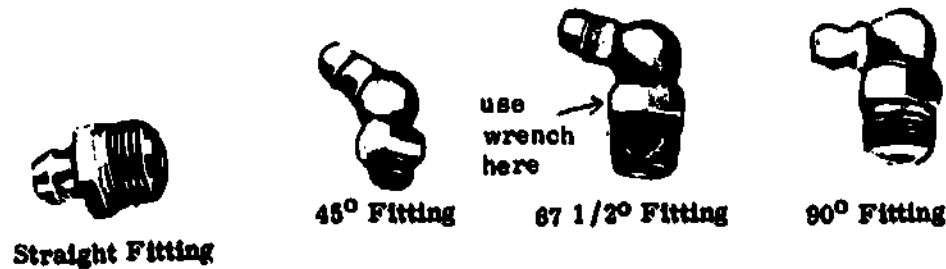

Fig 1-112. Grease fittings.
a. **General.** Certain places on a vehicle require grease to be placed inside a small enclosure where it will provide constant lubrication to the moving parts. This enclosure is sealed off to prevent the grease from escaping and to keep out dirt, dust, water, and salt which could interfere with the proper movement of the parts. A grease fitting is placed into this enclosure to allow grease to be forced into the enclosure, but it also acts to seal off the enclosure to help prevent the loss of grease. There are various types and shapes of fittings for use in different types of places requiring grease. They are made in different shapes so that they can be easily reached when it is time to put grease into them (fig 1-112).